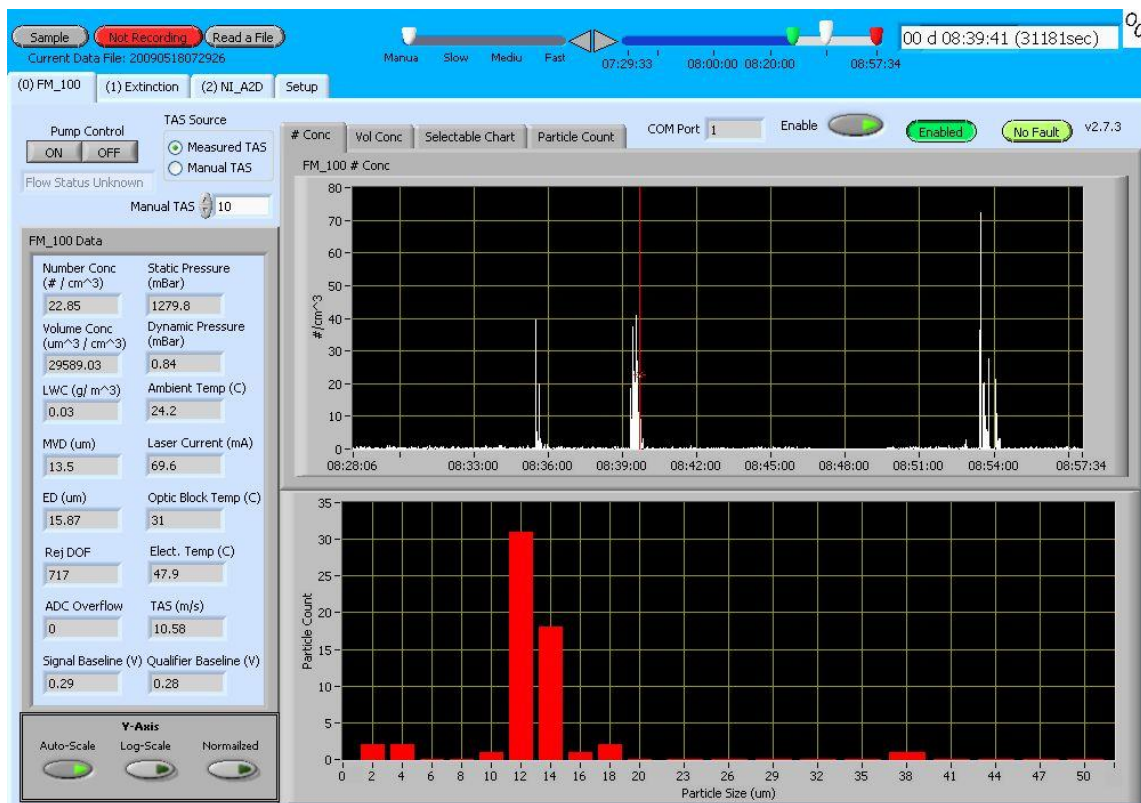

Figure 30: PADS Display of Calibration Test Results. Note the definite peak in the 12-14 μm particle range.
- 8.) Connect the tube on the calibration fixture's far end to the dispenser, and connect the dispenser to the duster. (See Figure 29.) *Gently* press the duster so glass beads are released into the instrument. A very small amount of pressure on the trigger of the duster can will suffice. The calibration should be done in a short burst about 1 second or less. There will be a delay of 1-3 seconds before the data shows on the computer screen. (See Figure 30.) The total number of particle counts, not concentration, should be 30-200. This is summed across all of the bins.
Figure 30 shows the typical calibration response for the FM-100. Note that the total number of particle counts is about 50 particles, which is an acceptable concentration. The nominal size of the glass beads is  $17.3 \mu\text{m}$ . In consulting Appendix A, the equivalent water size is  $14.5 \mu\text{m}$ . In Figure 30, there are two predominate peaks, one at  $12 \mu\text{m}$  and the other at  $14 \mu\text{m}$ . The designations are the upper boundaries of bins, so the major peak is  $10\text{-}12 \mu\text{m}$  and the other peak is  $12\text{-}14 \mu\text{m}$  sizing. While these peaks occur at particle sizes slightly smaller than one might expect, they are acceptable given the  $\pm 1.4 \mu\text{m}$  variation in glass bead size and a 12% coefficient of variation.